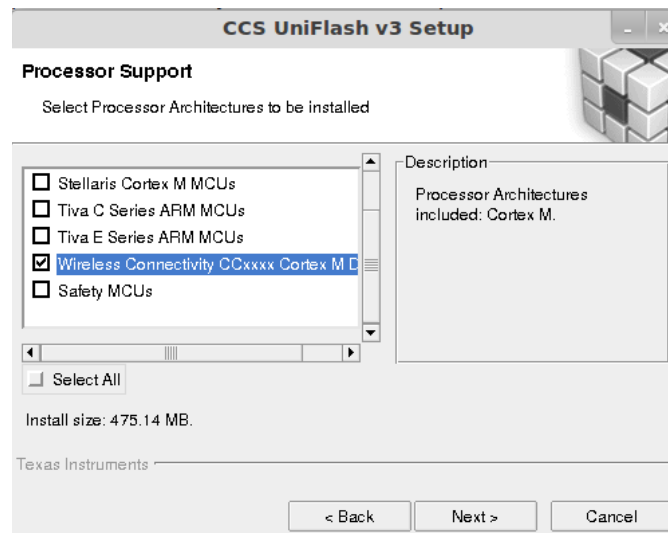

Figure 9. UniFlash Installation
2. Run the installer (uniflash_setup_x.x.x.xxxxxx.bin). Select custom installation and make sure that support for Wireless Connectivity devices is installed (see Figure 9).